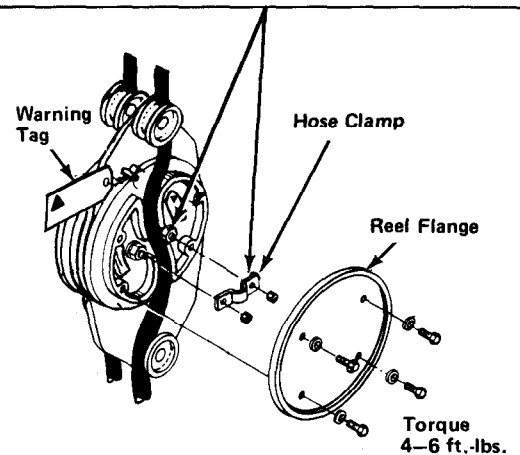

Fig. 7
- 7 Remove the hose clamp at the center of the hose reel. See figure 7.